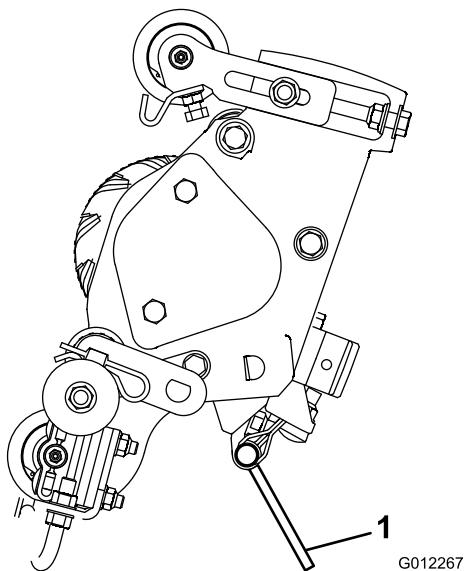

Figure 2
**Note:** Whenever the verticutter has to be tipped to expose the verticutter blades, use the kick stand (supplied with traction unit) (Figure 2).